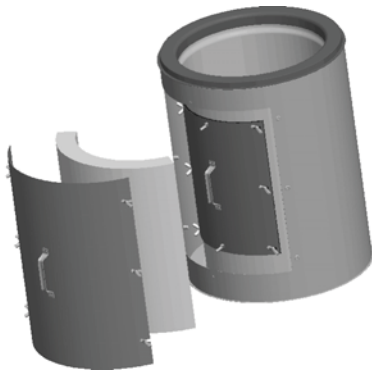

Figure 74
2. Remove the outer door from the outer wall of the duct and set it in a safe place during the inspection (**see figure 74**).
3. Remove the insulation pad and set it in a safe place during the inspection (**see figure 74**).